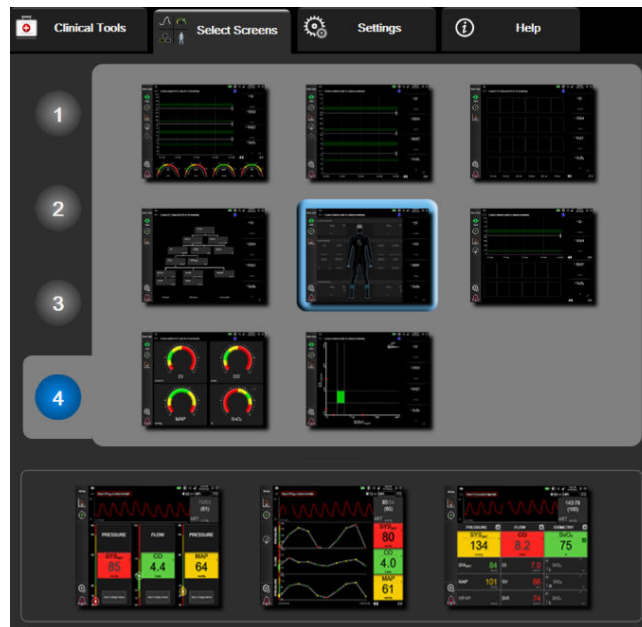

Figure 5-3: Example of monitoring screen selection window
**Select Screens.** The select screens tab allows the user to select the desired number of monitored parameters displayed and the type of monitoring view used to display them, which is highlighted in color (see Figure 5-3 on page 98). When a monitoring view screen is selected, that monitoring mode is immediately displayed.